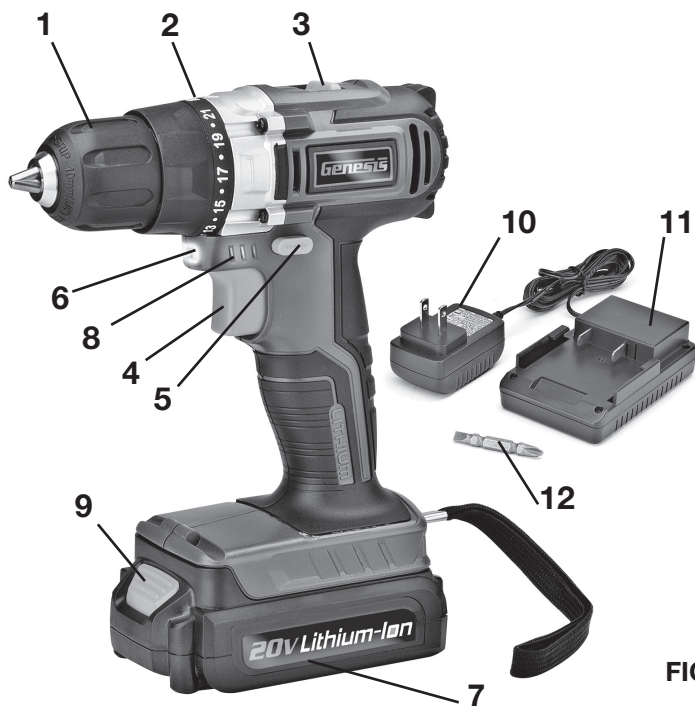

FIG 1
- Turn the drill on by depressing the trigger switch (4-FIG 1).
- Use the reversing switch (5-FIG 1) to change the direction of rotation of the drill.
Your tool has a built-in LED work light (6-FIG 1) to illuminate the work area. When you turn on the tool, the work light will automatically turn on.
Your tool has a built-in battery power indicator (8-FIG 1) right above the trigger switch. It has three colored lights—Green, Yellow and Red. Depress the trigger switch slightly to check the battery power level. When all three lights illuminate, it indicates the battery is at full power. The battery is at half full power when only the yellow and red lights illuminate. When the red light illuminates only, it indicates that the battery is at low power level and requires immediate charging.